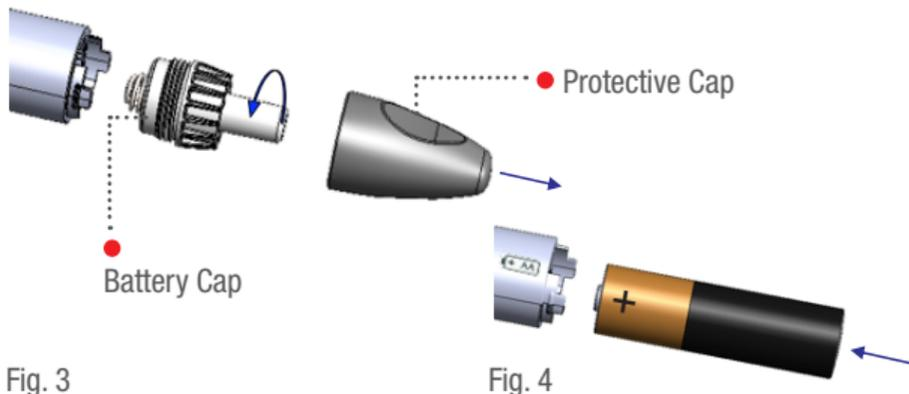

Fig. 3
6.3.1. To install / replace the battery, remove the protective cap and unscrew the battery cap Fig. 3.